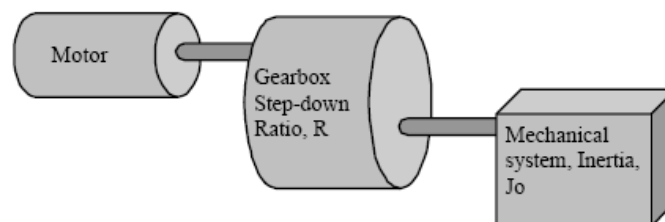

Figure 1.
7. With reference to figure 1, show how the inertia of the load (J_o) will be reflected back to the motor.